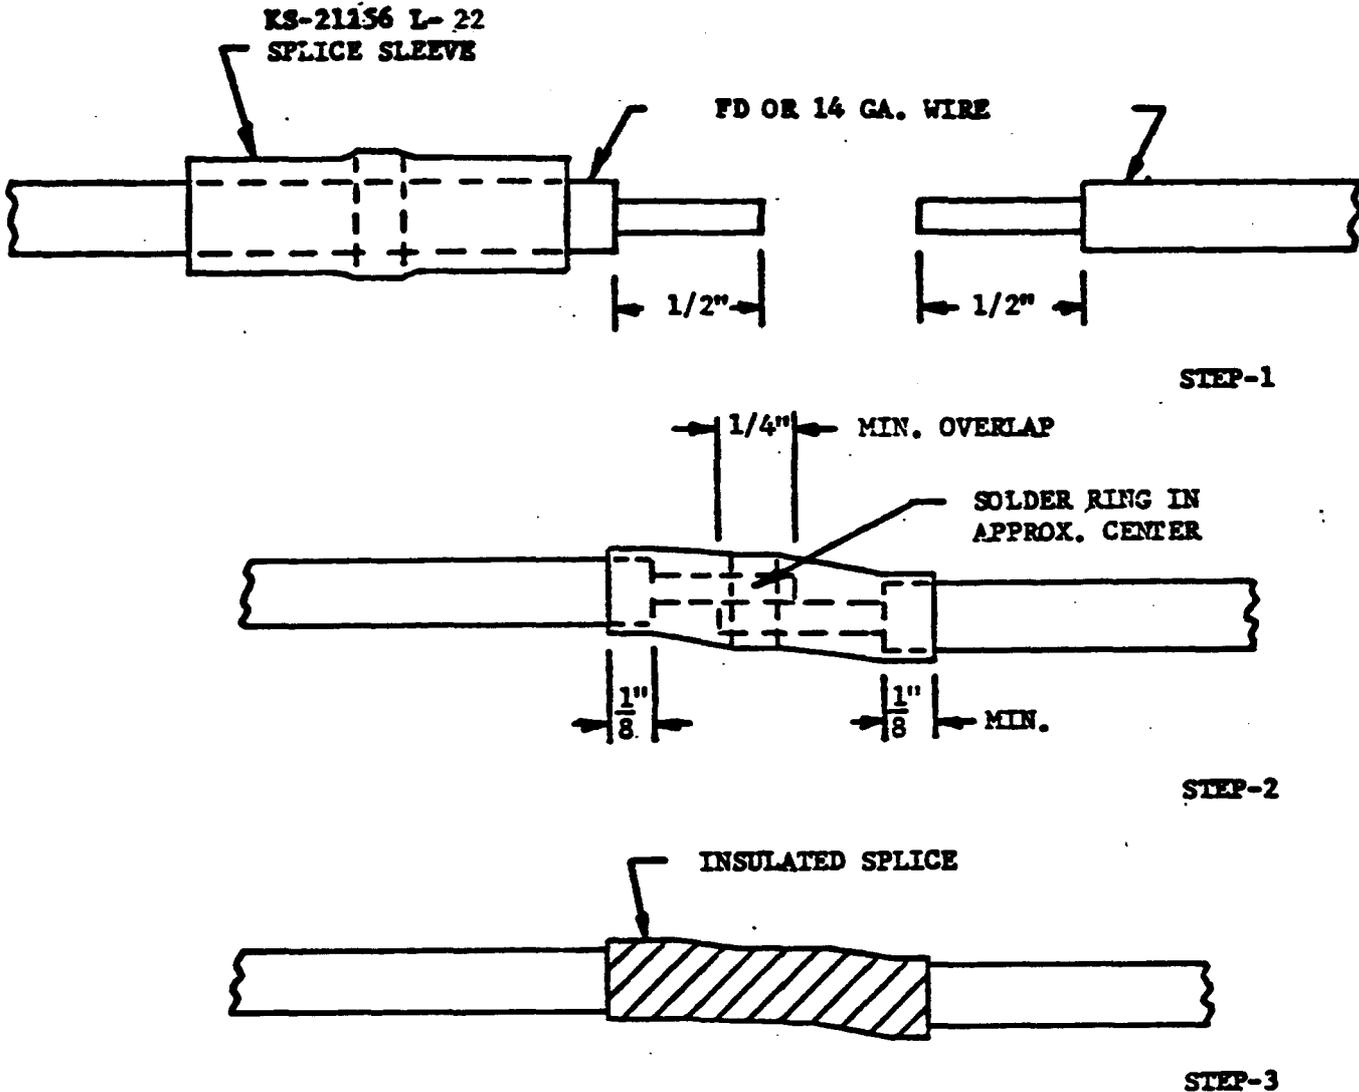

FIG. 13 METHOD OF SPLICING FD TO FE, FD TO 14 GA OR 14 GA TO 14 GA
4.5 EMERGENCY ALARM SYSTEM: The "solder sleeve" type splices shall be made as shown in Figures 13 and 14. The splices shall be located so that it will not be placed under the varnish impregnated sleeving used to protect the FD wires from the metal framework.
- b) Bring the two ends of the FD wire together so that they overlap 1/4 inch (min) and then slide the splice sleeve (KS-21256 L-22) over the two leads so that the solder ring is approximately centered as shown in Figure 13 (Step 2).
4.53 FD TO 14 Ga WIRE This type of splice shall be made according to Paragraphs 4.51 (a) thru (c) and Figure 13.
Figures 13 and 14.